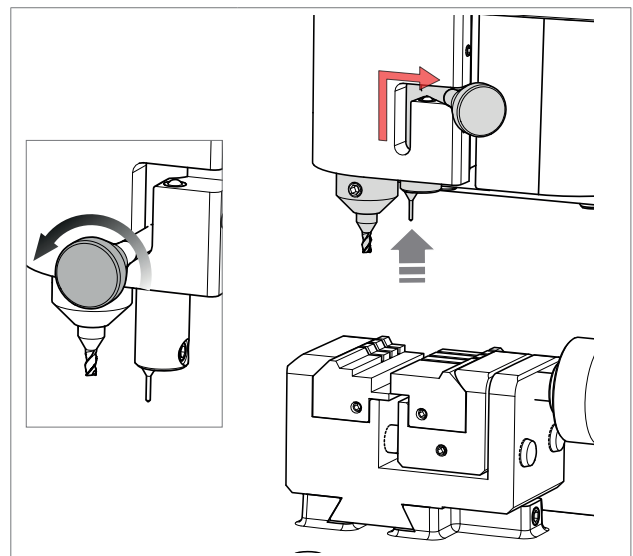

Fig. 57
### • EXCLUDING THE TRACER 01T (Fig. 57)
**NOTE: for cutting and/or decoding operations with the tracer point 02T, the tracer 01T must be in the idle position (Fig. 57). REPLACE THE 02T TRACER WITH THE REQUIRED CUTTER PRIOR TO ATTEMPTING TO CUT A KEY.**